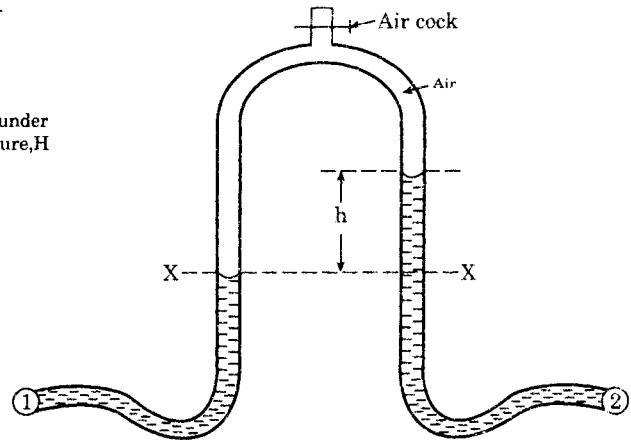

Fig. 1.6. Inverted U-Tube.
(iv) *Differential Gauge.* It is a modification to the inverted U-tube. The point of difference being that air is replaced by a liquid lighter than water. This makes the gauge sensitive; as is illustrated below. Refer to Fig. 1.6. Let  $S$  be the specific gravity of liquid used; the pressure difference between points (1) and (2) is